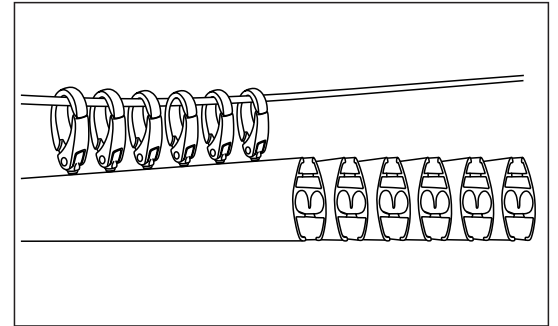

Fig. 23
- Bring the profiles together so the lower channels of the profiles are next together. (Fig.23). The outermost channel of the first and last profiles are used for the vertical panels (if ordered) and should not be used for installation of horizontal panels.